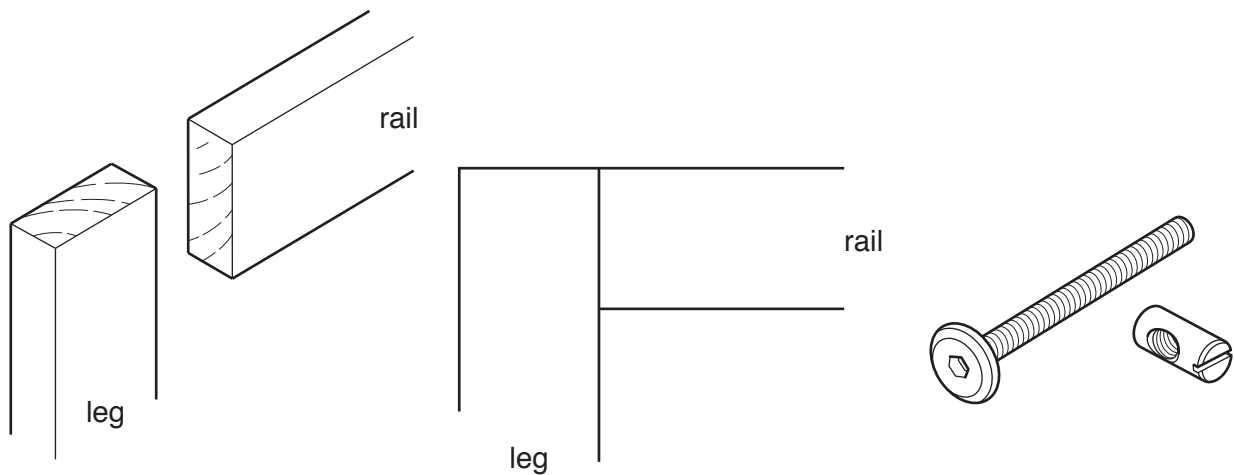

Fig. 7
9 Fig. 7 shows part of a leg and rail of a table and a knock-down (KD) fitting.
Draw on Fig. 7 to show how the knock-down (KD) fitting could be fitted to the leg and rail to make a strong joint. [3]